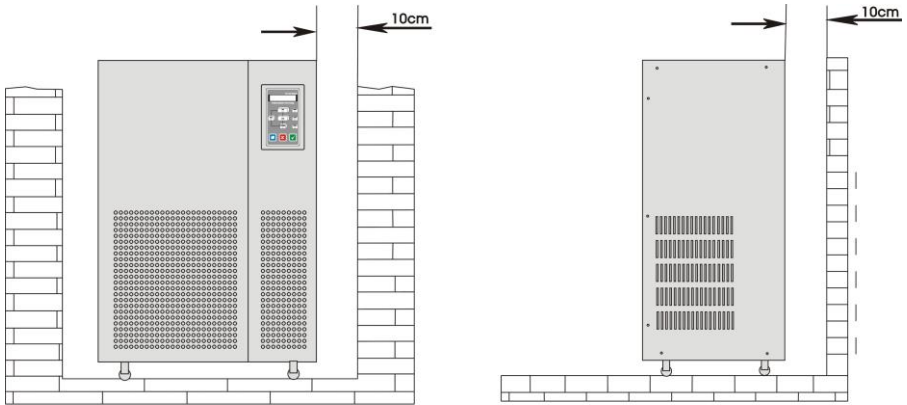

Figure 4
2. Please place the UPS in a place which has good ventilation, UPS's back face and side face should be more than 10cm away from the room's walls. (Figure 4)
2. Verify the installation place again. (Figure 4 to 10)